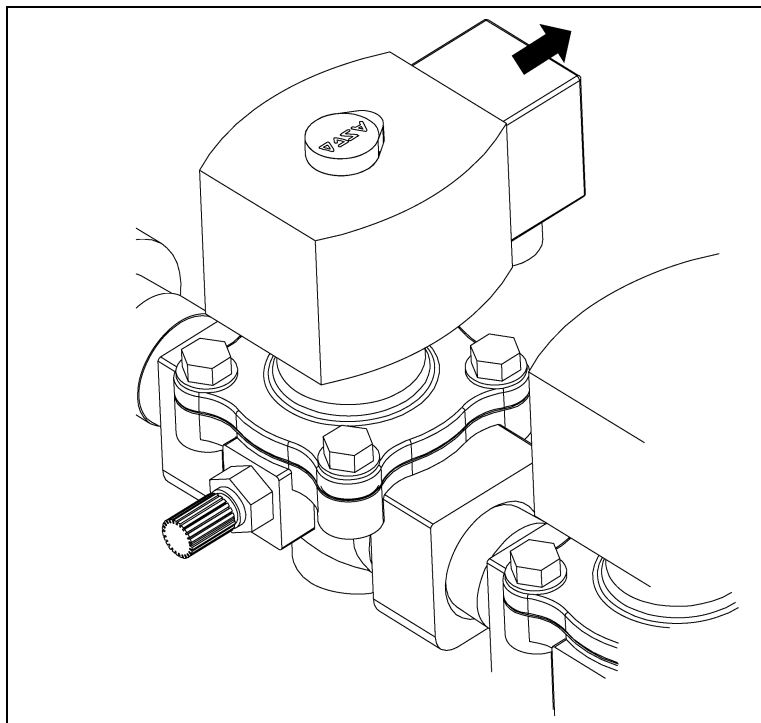

Figure 5T
3. Remove power plug on cycle valve. *(See Figure 5T.)*